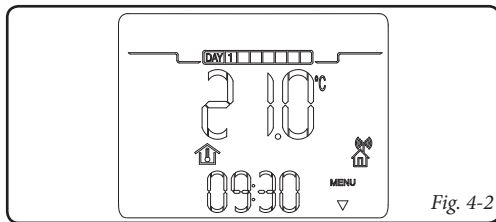

Fig. 4-2
- **Stand-by/anti-freeze mode** (❄️). In this mode, the boiler can only function in the event of anti-freeze request. In this status the day, current time, any operating anomalies and the room temperature are displayed anyway (Fig. 4-2).